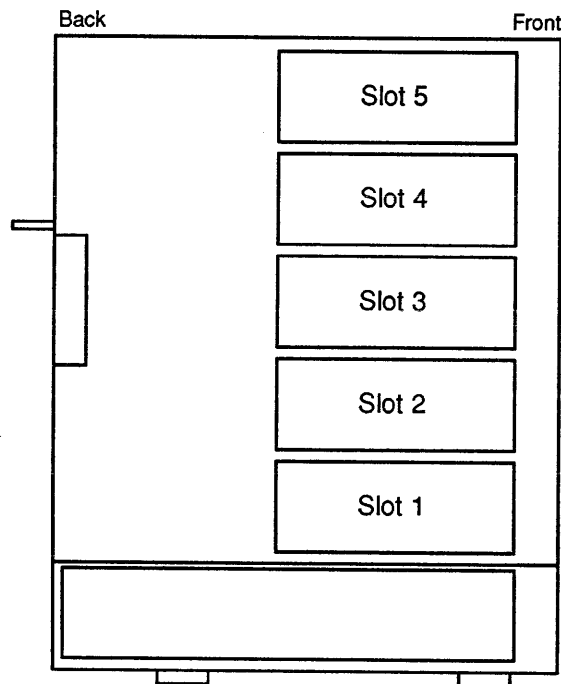

Figure C.3. Expansion Cabinet Slot Assignments
4. Specify the ID number using the the jumper block and shorting plug(s) on the rear panel of the Disk Drive. The ID number can range from 1 to 5 and is the same number as the slot where the Disk Drive will be installed. Refer to Figure C.3 for the slot assignments.
- Complete this step if the Disk Drive is being installed in slot 1. Refer to Figure C.3 for the slot assignments. Otherwise, skip this step and proceed with step 6.